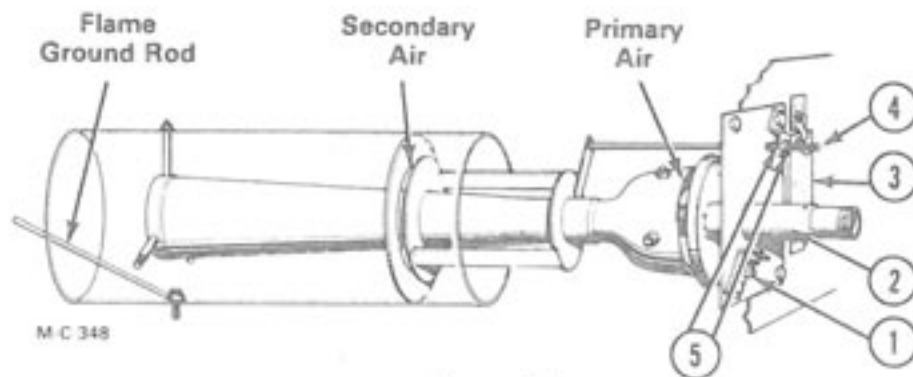

Figure 49
3. If the primary and secondary air adjustments have been misadjusted, time can be saved by shutting down the burner and starting over. Close the primary air adjustment all the way by loosening locking bolt (1) and turning the primary air adjuster pipe (2) clockwise, see Figure 49 and 50, then open it $1\frac{1}{2}$ to 2 turns. See note.
to ($\frac{1}{8}$ inch), connect terminals E-1 and E-2 on the ignition board to the test electrode or spark plug with jumper wires, see Figure 49.
Close the secondary air adjustment all the way by loosening locknuts (5) and pushing the secondary air adjustment rod (4) in all the way, see Figure 49 and 51, then pull the adjustment rod out approximately $\frac{1}{8}$ inch.
Primary Air (See Figure 49 and 50)